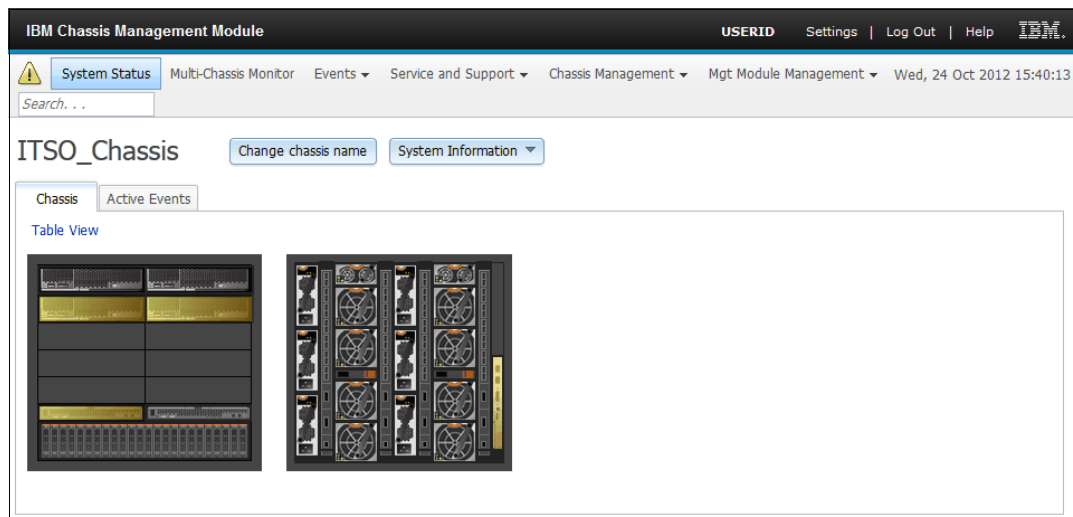

Figure 3-6 IBM Flex System Chassis Management Module chassis map (default) view
3. After a successful Login, CMM will open the default view showing Chassis Map, as shown in Figure 3-6.